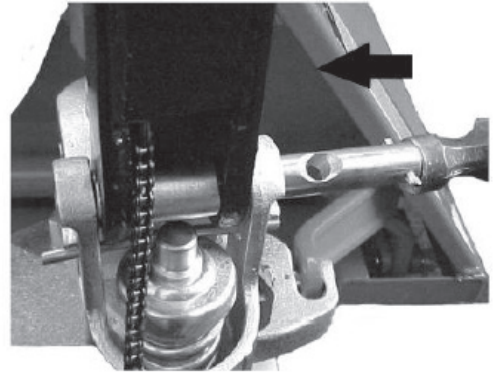

Fig. 4
- a) Insert the tiller arm(1) into the pump piston, then use a hammer to insert the axle with hole into the hydraulic pump and tiller arm (Fig. 4).